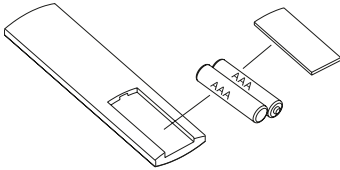

Fig.2
1. Place two AAA batteries in the remote control. (As shown in Fig. 2)